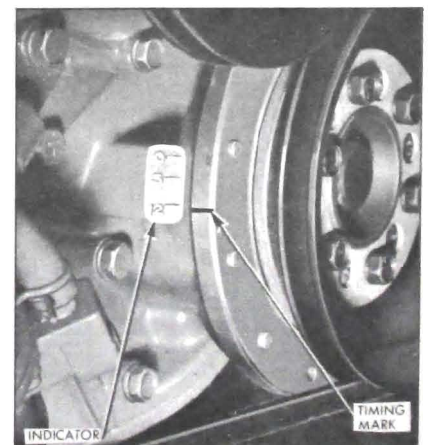

Figure 10-46—Ignition Timing Mark and Indicator
degrees, and "12" degrees before U.D.C. See Figure 10-46.
1. With right rocker arm cover removed, rotate crankshaft in a forward direction using a suitable wrench on the harmonic balancer to crankshaft bolt. Continue rotation until both valves for No. 1 cylinder are completely closed and the timing mark on balancer is aligned with the proper mark on timing indicator. See Figure 10-46. No. 1 cylinder is now in position to fire.
tributor housing slowly until yellow mark on balancer lines up with the proper mark on the indicator, then tighten clamp bolt securely. See Figure 10-46.